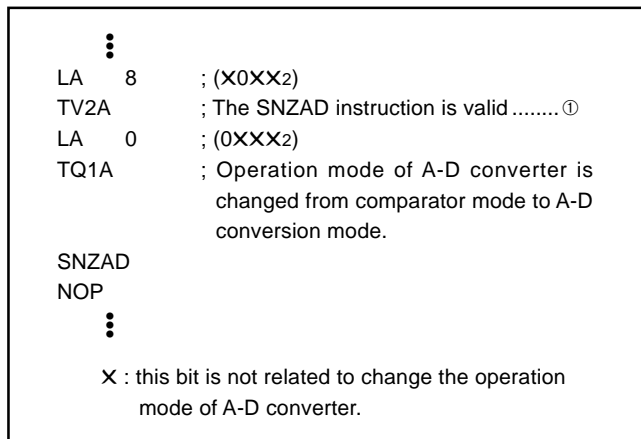

Fig. 48 External 0 interrupt program example-3
- Clear the bit 2 of register V2 to "0" (refer to Figure 48①) to change the operating mode of the A-D converter from the comparator mode to A-D conversion mode with the bit 3 of register Q1.